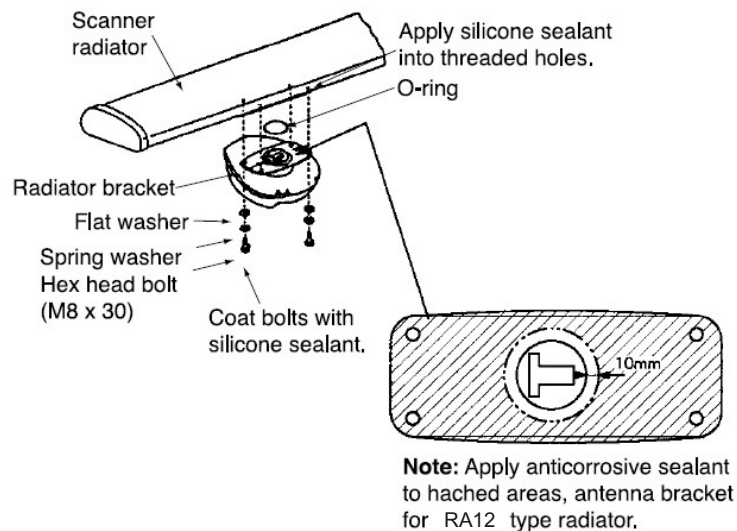

Figure 6-12 Fastening the radiator to the radiator bracket
3. Now is the time to fix the radiator to the radiator bracket. Apply anticorrosive sealant (silicone sealant) to hatched areas, to prevent corrosion. See the figure below. Apply silicone sealant into threaded holes on the scanner radiator. Remove the cap on the radiator bracket and orient the radiator bracket as shown in Figure 6-12. Apply grease to the O-ring and set it to the center of the radiator bracket. Coat the radiator fixing bolts with silicone sealant. Fasten the radiator to the radiator bracket with the ONWA logo on the radiator facing ship's bow.